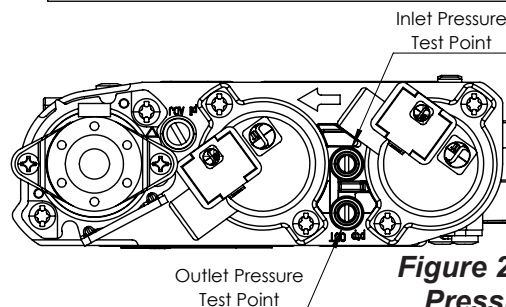

Figure 23 - Control Valve Pressure Test Points
1. With main shutoff valve open; loosen the screw at the Inlet Pressure Test Point on the Control Valve (Figure 23).